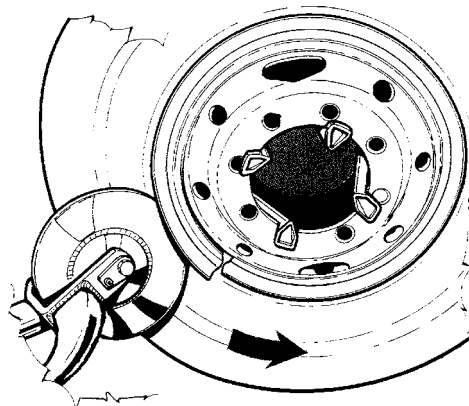

Fig.39
4. To remove the lock ring, squeeze one edge with the proper bar and place the bead loosener disc as shown in fig.39.